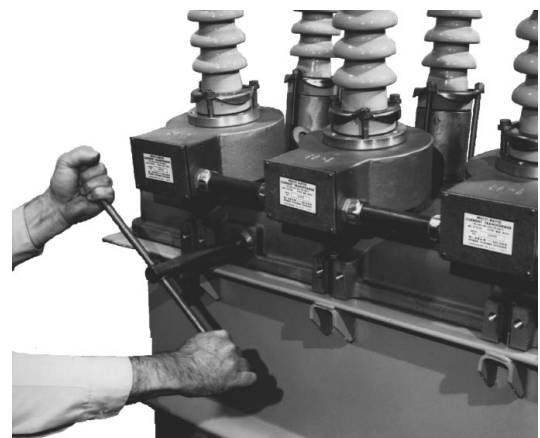

Figure 48.
2. Insert the tee-handled tool (available as an accessory) into the port, engaging the pin on the closing shaft (Figure 48).